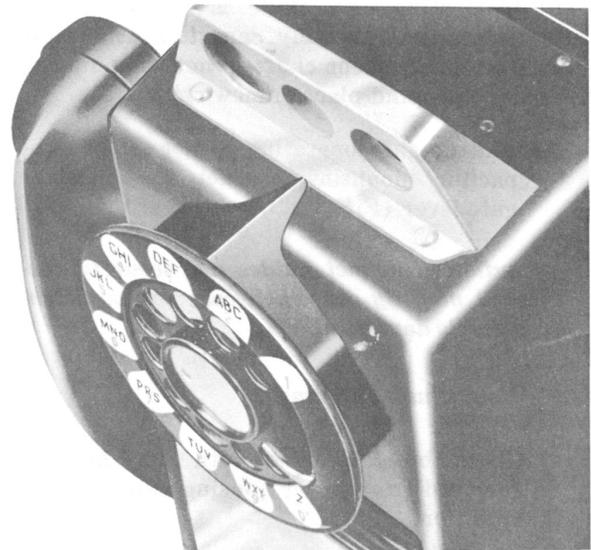

Fig. 2 — P-14A544 Coin Deflector in Place
- See Fig. 2 for installation.